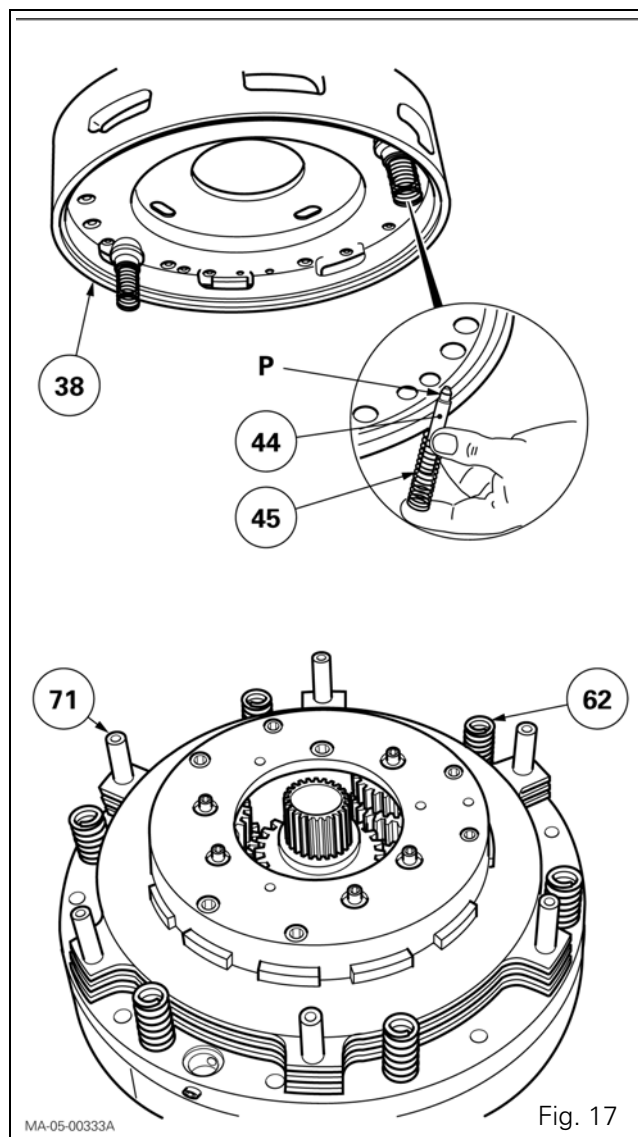

Fig. 17
93. Refit the pins (71) and the springs (62) (Fig. 17) in their respective locations on the input unit.